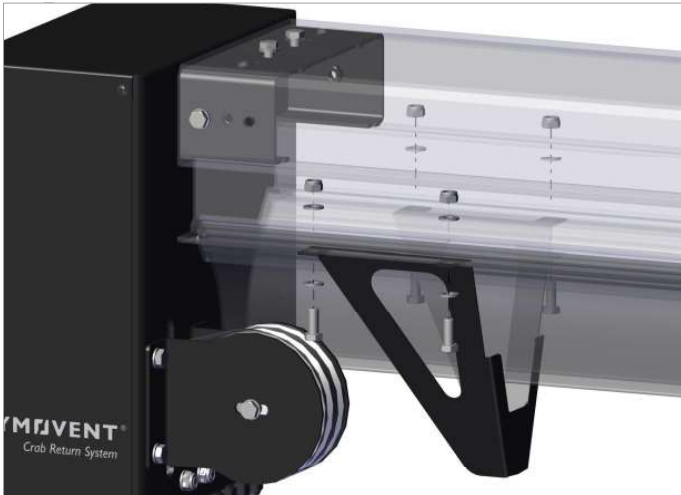

Fig. 6.3.7 Mounting the stop bracket
- Mount the stop bracket to the rail using self-tapping screws 1/4 x 1 in. (6.3 x 25 mm). Refer to fig. 6.3.7.